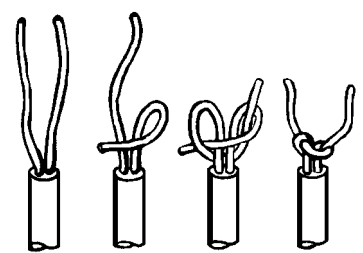

Fig. 4
4. Tie Underwriter's knot (Fig. 4).
4. Haga un nudo "Underwriters" (Fig. 4).